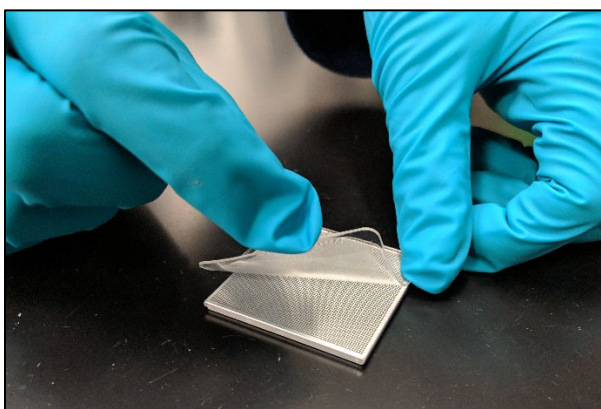

Figure 74. Removing the film from the chip.
3. Carefully peel the film from the chip (Figure 74). First, anchor one corner of the chip with your finger. Then, using the tab on the film, apply even pressure until the film is removed.